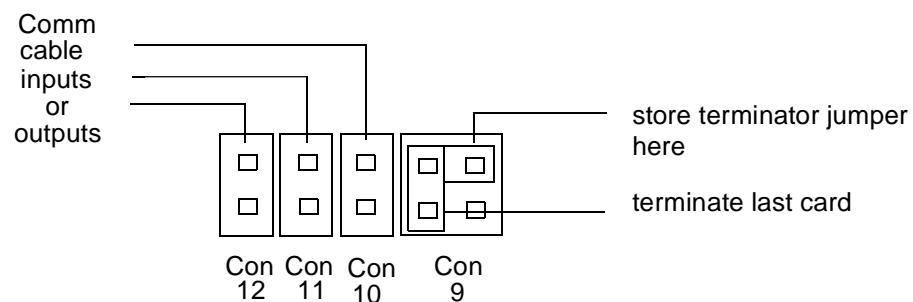
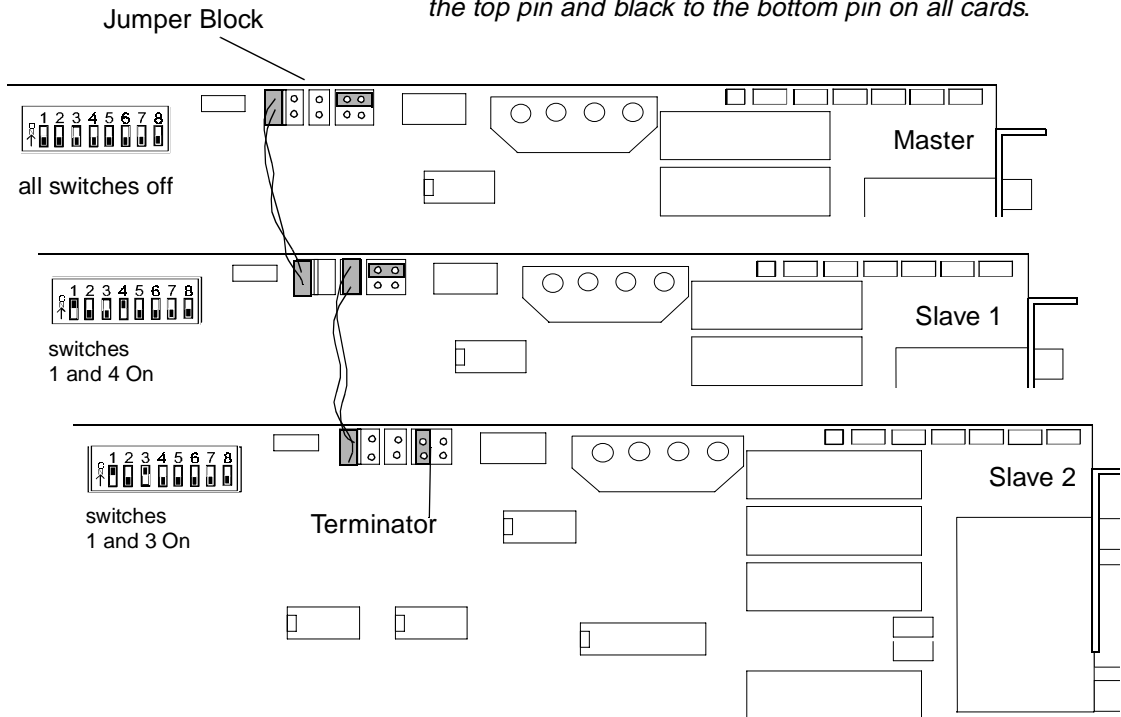

Figure 1.7. Jumper Block Expanded View
Figure 1.8. Connecting LinkCard Communication Cable(s) and Terminator
2. Locate the jumper block at the top edge of the LinkCard indicated by Figure 1.7 and Figure 1.8. There are three sets of two-pin jumpers (Con 10, Con 11, and Con 12) and one set of four-pin jumpers (Con 9). The Con 10 through Con 12 pin jumper blocks are used for communication cable inputs or outputs. The top jumpers of Con 9 are used to store the terminator when it is not needed and the first set of jumpers is used to terminate the last card if you have a Console cable that is over 100 feet.
Master Card Only– The top two pins of Con 9 should be jumpered. Refer to Figure 1.7. This completes the installation for master only LinkCard systems. If you have slave cards to install continue with the next paragraph, otherwise, go to step 4.
3. Install the LinkCard Communications cables. Use the left three pairs of jumper block pins (Con 10, Con 11, and Con 12) to connect the communications cables. The jumper blocks are wired in parallel, therefore, any one may be used for an input from the previous card or as output to the next card. Refer to Figure 1.8.